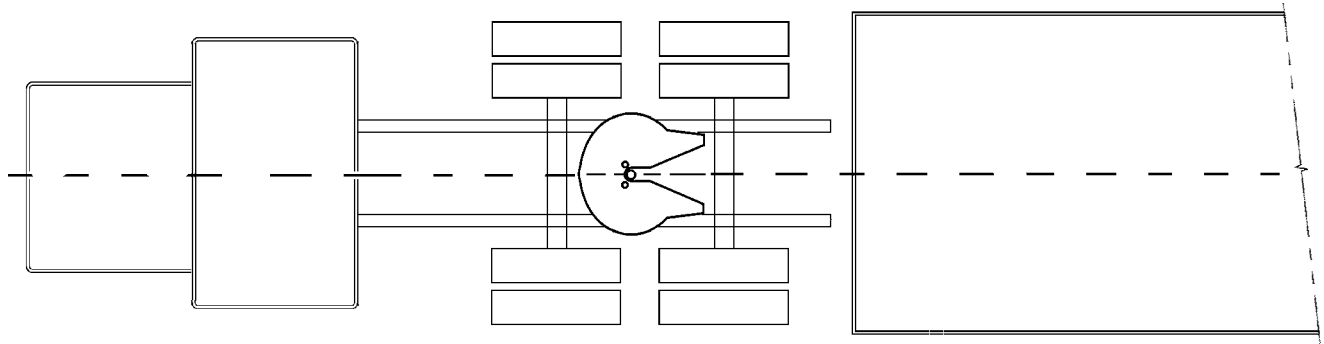

Figure 3-2 Align Truck With Trailer For Coupling
2. Place the truck directly in front of the trailer. See figure 3-2. **NEVER** back under the trailer at an angle.